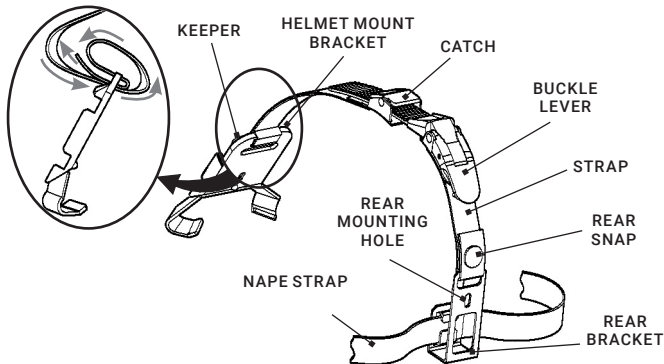
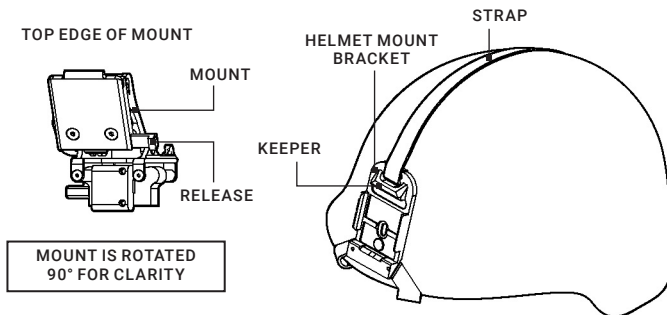

FIGURE 2-5. INSTALLATION OF HELMET MOUNT
FIGURE 2-6. HELMET MOUNT
1. Remove the helmet mount from the carrying case. Refer to Figure 2-5 for helmet mount features.
2. Press the release (Figure 2-6) to remove the mount from the helmet mount bracket.
3. Verify that the strap is laced onto the helmet mount bracket (Figure 2-5).
4. With the catch pushed forward (Figure 2-5), place the strap over the top of the helmet center (Figure 2-6).
5. Hook the rear bracket (Figure 2-5) on the center of the back of the helmet. Lay the strap, now hooked to the helmet mount bracket, over the top of the helmet.
6. Hook the helmet mount bracket to the center of the front lip of the helmet and hold it in place (Figure 2-6).